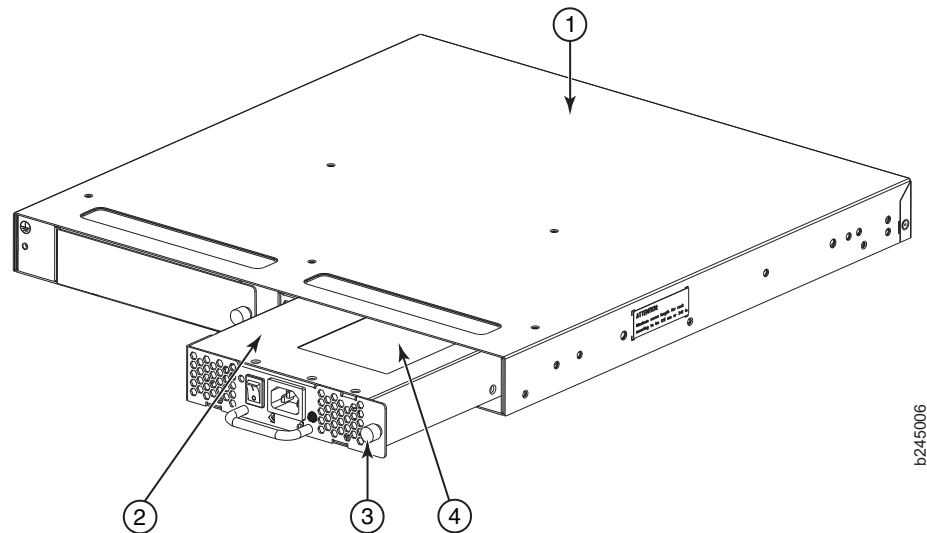

Figure 14. Removing the power supply and fan assembly
Refer to Figure 14 for this procedure.
Refer to Figure 14 on page 35 for this procedure.
2. Orient the new power supply and fan assembly with the captive screw on the right, as shown in Figure 14 on page 35.